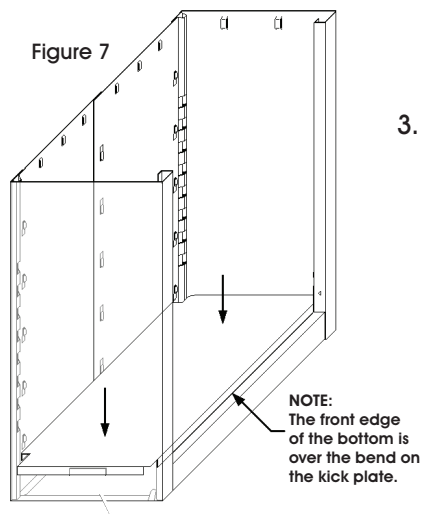

Figure 7
- Carefully stand the unit upright and tap the bottom shelf down. Make sure bottom shelf is securely positioned on the supports on the back and side panels. (See Figure 7)